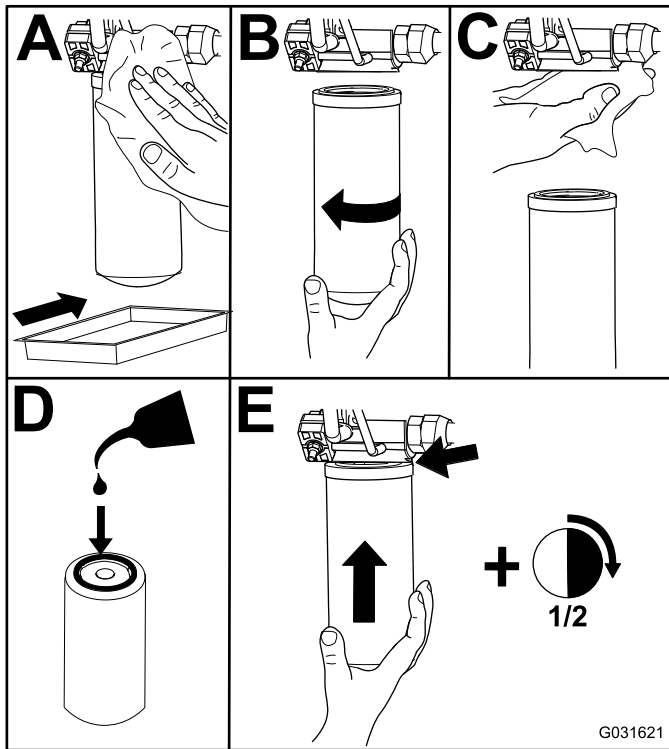

Figure 73
2. Replace the hydraulic filters (Figure 73).